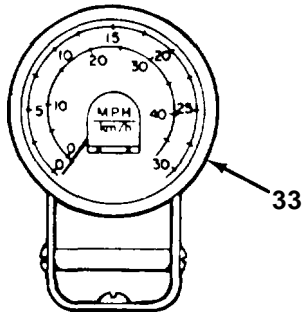

Figure 4-14. *Speedometer*
33. **Speedometer** indicates travel speed in mph and km/h. An audible warning will sound at 25 mph (40 km/h) (Figure 4-14).